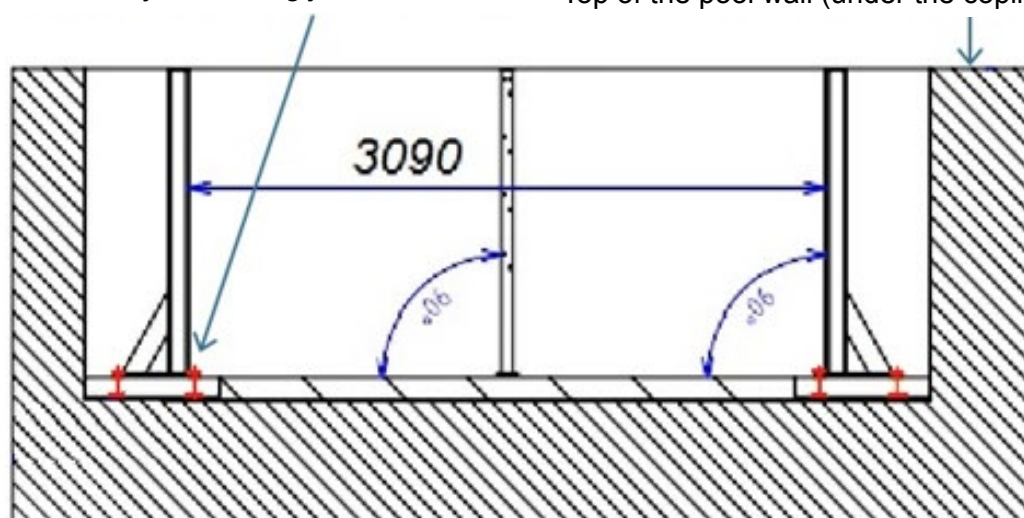

Figure 4 – Position of the support braces and top and bottom connecting bars
Install the supporting braces in each of the eight locations, having first fitted the recesses with jacks (*Figure 3* and *Figure 4*). Use 8 double acting jacks, 12 single acting jacks and 56 screws with a diameter of 10 mm (bag A). The top screws should be inserted after the height of the bottom screws has been adjusted.
- ! Check that all the dimensions quoted in *Figure 4* are correct before proceeding with the next step.